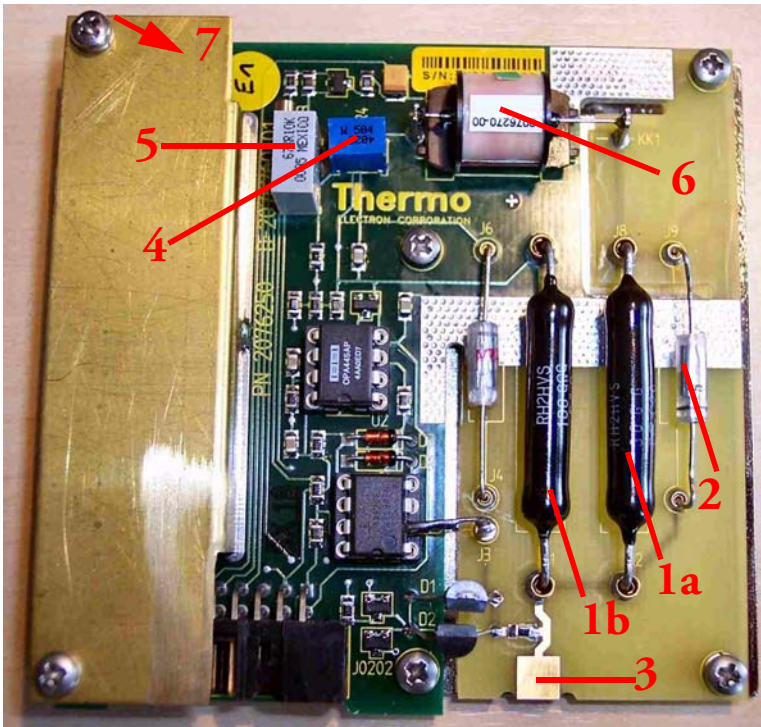
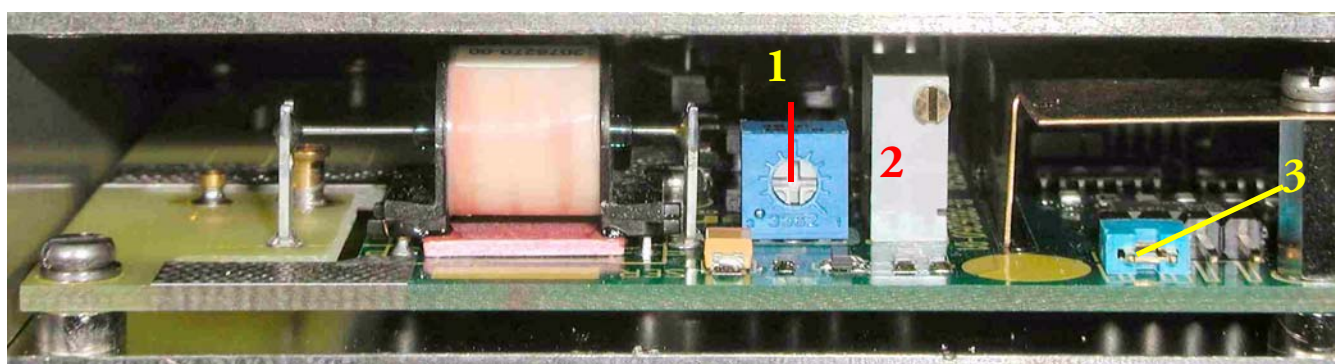
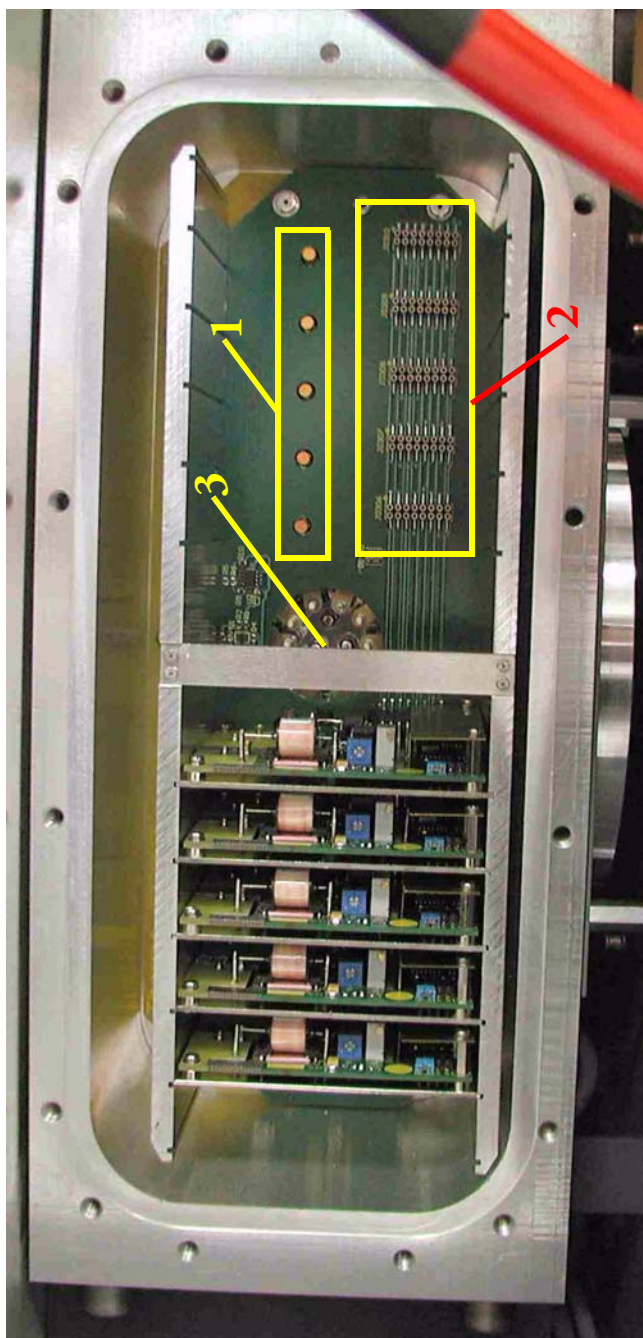

Figure 5-13. Single Amplifier - Dismantled
Figure 5-14. Arrangement of a Single Amplifier
Figure 5-15. Arrangement of Several Amplifiers
* Refer to Figure 5-13.
A single, dismantled amplifier is shown in Figure 5-13. For maintenance of single amplifiers and the amplifier area refer to “Amplifier Area” on page 7-40.
Warning Never touch the surface of the high-impedance resistors, **1** in Figure 5-13! Already a slight touch of a fingertip contaminates the resistors resulting in signal instability. If you nevertheless accidentally once touched them, clean them using methanol. ▲
4	Attenuation potentiometer (see 1 in Figure 5-14) Controls time constant and yields the optimal characteristic of the RC combination as it avoids over- and undershooting.
5	Offset potentiometer. Controls offset. See 2 in Figure 5-14. Only for factory! When the amplifier was calibrated, the potential was set to 0 V.
7	Blue jumper (not to be seen in Figure 5-13, but see 3 in Figure 5-14) Is needed for mounting the amplifier into the amplifier housing according to Figure 5-14 and Figure 5-15. External voltages can be fed in there
A resistor and a capacitor, **1** and **2** in Figure 5-13, form a RC combination. Usually, an amplifier contains one specifically chosen RC combination to accomplish a particular amplification according to the individual measurement problem.
Figure 5-13 however, shows an amplifier with two RC combinations arranged in parallel. The additional RC combination enables switching between amplifiers which is handled by Isodat 2.5.
Even the amplifier housing is a component of the analyzer block. Space for ten amplifiers offer an increased flexibility concerning simultaneous measurement of several gases. Figure 5-14 shows the arrangement of a single amplifier after it has been inserted into its slot along a guideway.
Figure 5-15 shows how several of those amplifiers are arranged next to each other within their respective slots. The visible green board is amplifier ground plane.